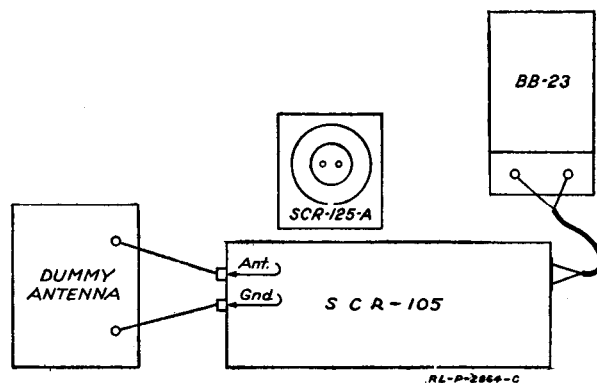

Fig. 53.—Method of coupling the SCR-125-A wave meter to set box BC-53-A.
9. Closely couple the SCR-125-A wave meter to the ground lead of the set and measure the wave length which is being transmitted. (See Fig. 53.) Note carefully over how much of the wave-meter scale the signal can be heard.